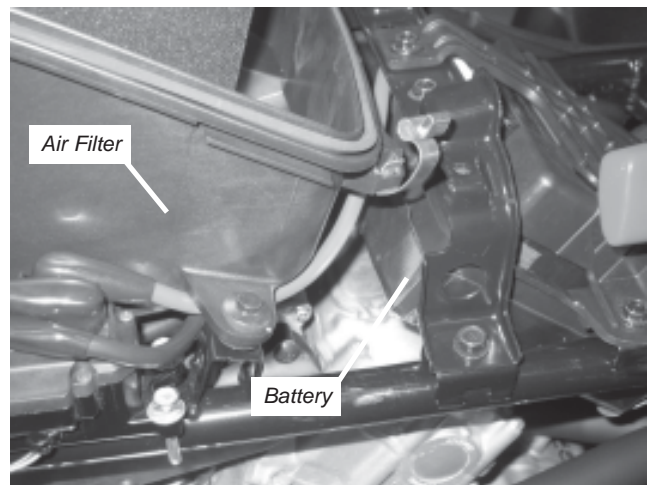

Figure 18
- h. Route the red and black battery electrical cables in-between the air box and then around the battery, shown in Figure 18 and 19.